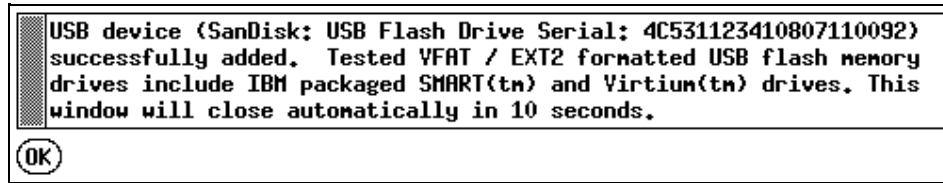

Figure 7-83 HMC - SAIOCP: USB drive insertion message
11. Insert the USB flash memory drive that contains the IOCP text file. Wait for the drive insertion message to open (Figure 7-83).